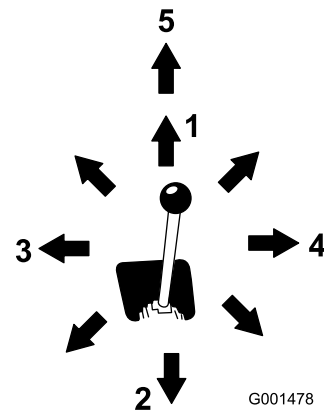

Figure 10
- To tilt the attachment forward, slowly move the lever to the right (Figure 10).
- To tilt the attachment rearward, slowly move the lever to the left (Figure 10).
- To lower the loader arms, slowly move the lever forward (Figure 10).
- To raise the loader arms, slowly move the lever rearward (Figure 10).
- To lower the loader arms to a detent (float) position, push the lever fully forward (Figure 10).